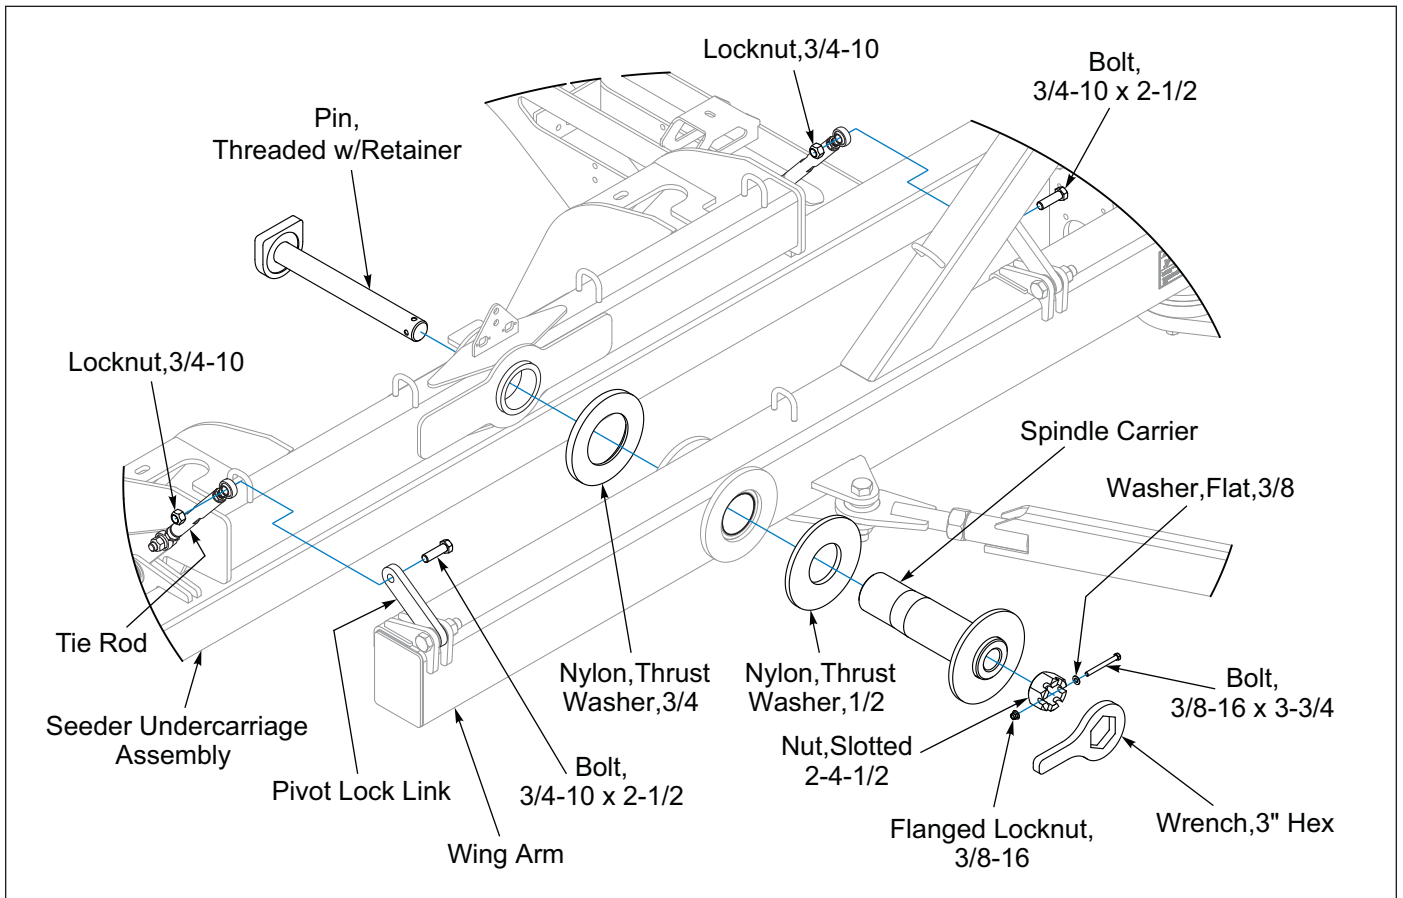

Figure 2-3: Seeder Undercarriage Assembly to Wing Arms
1. With Wing Arms partially unfolded, to clear the folding seeder frame, position a Seeder Undercarriage Assembly behind each Wing Arm. Align the mounting hole on the undercarriage with the Wing Arm mounting hole. **See Figure 2-3.**